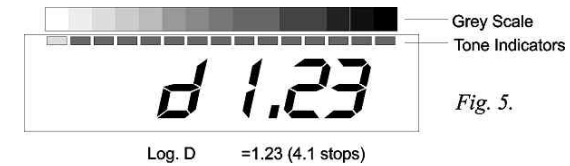
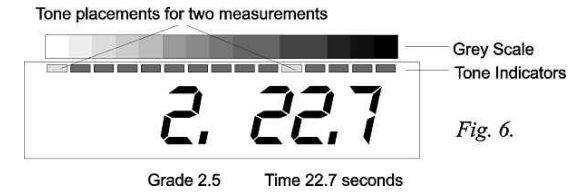

Fig. 5.
Fig. 6.
first reading will always be placed at or near the highlight end of the grey scale, irrespective of the actual tone on the negative.) Now position the remote sensor in a highlight (dense negative) part of the image and briefly press and release the “Measure” button. After a delay the measured density range in logarithmic units is shown temporarily (Fig.5) followed by the new exposure time. The new measurement lights a second LED at or near the black end of the grey scale (Fig.6).
- 2 The LED representing the most recent measurement will flash briefly to assist identification. During this period, the display shows the relative density of the negative as a log.D figure (refer to Fig.5). The density measurements are always relative to the brightest measurement so for them to be useful ensure that you measure the brightest negative area (deepest print shadow) first.